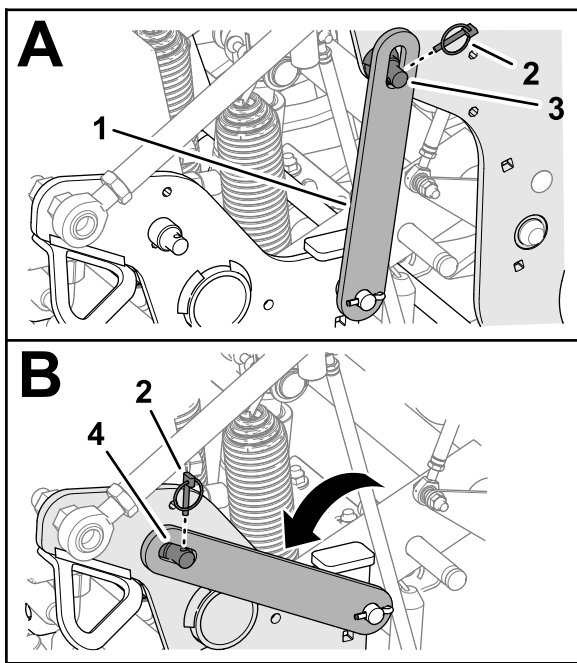

Figure 112
3. Remove the lynch pin securing the service latch to the support pin of the coring head (Figure 112).